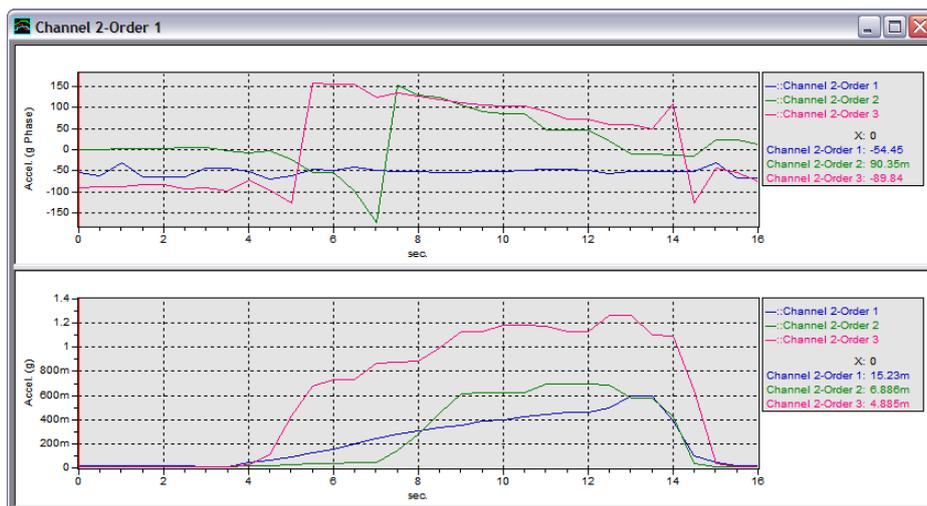

Figure 35: Channel 2 Computed Order Tracking from demo data
3. After selecting the desired parameters, choose <OK> to display the Bode plot of the orders similar to the one shown in Figure 35.